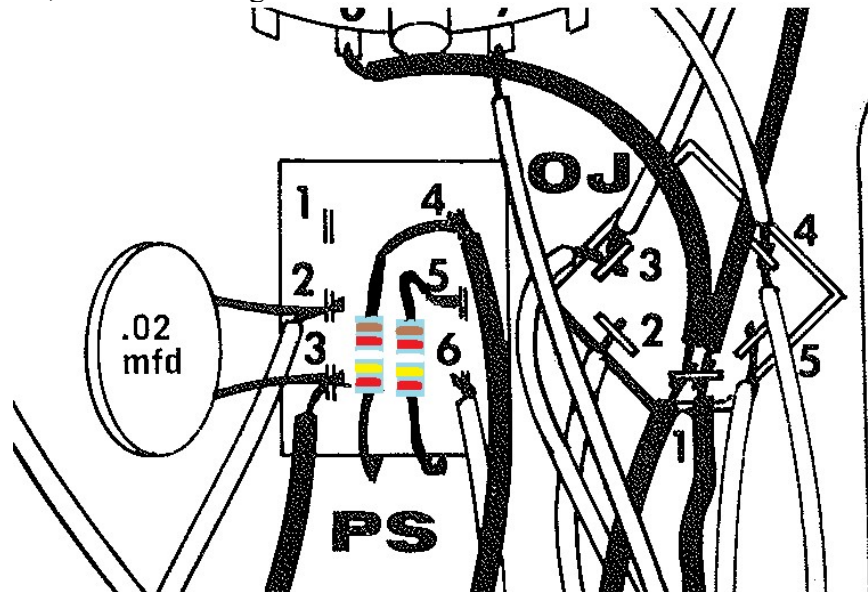

Figure 21-install blue light assembly into the bottom of the switch and connect the resistors as shown
4. Connect the two resistors of the LED assembly to pins 4 and 5 of the power switch, as shown in Figure 21.
6. Form the insulated resistor leads (on the side away from the blue light board), connecting the ¼" uninsulated ends to pins 4 and 5 of the switch, as shown in Figure 21-install blue light assembly into the bottom of the switch and connect the resistors as shown in Figure 21.